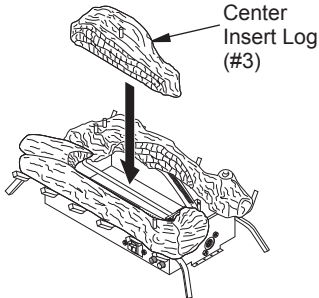

Figure 19 - Installing Center Insert Log (#3)
2. Place center insert log (#3) as shown in Figure 19, page 17.